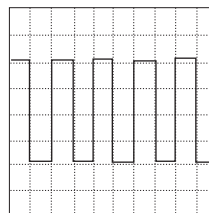

Figure 4-3
- 5) Set the AC-GND-DC switch to the AC state. A waveform as shown in the figure 4-3 will be displayed on the CRT screen
- 8) Adjust the ▲▼ POSITION and ◀◀ POSITION controls in appropriate positions so that the displayed waveform is aligned with the graticule and voltage(Vp-p) and period(T) can be read conveniently.